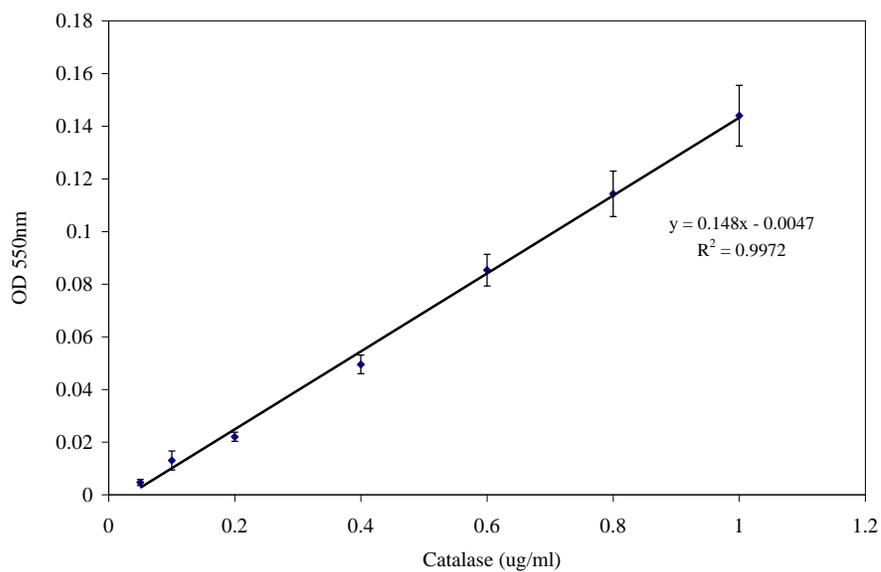

Figure 1. A typical catalase standard curve measured by ScienCell™ CAT Assay.
Data from ScienCell™ CAT Assay of catalase solutions with concentrations ranging from 1 to 0.05 µg/ml shows a linear relationship between OD550nm and catalase concentration (Figure 1).
2. Based on the calibrated OD550nm of the catalase standard, make a standard curve by plotting OD550nm as a function of catalase concentration. (See Figure 1 for a typical standard curve.) Determine the equation and R2 value of the trend line.